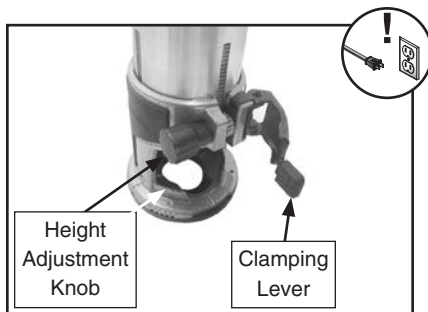

Figure 8. Height adjustment knob.
2. Loosen clamping lever shown in **Figure 8**, and adjust base to approximately desired height with the height adjustment knob.